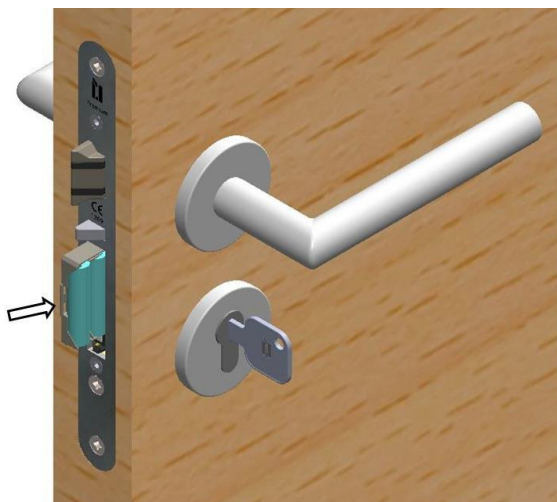

Fig. 4.1 – Inserting the battery compartment
- ▶ Insert the battery compartment with the battery contacts facing down into the opening on the GDL7m as far as it will go (Fig. 4.1).